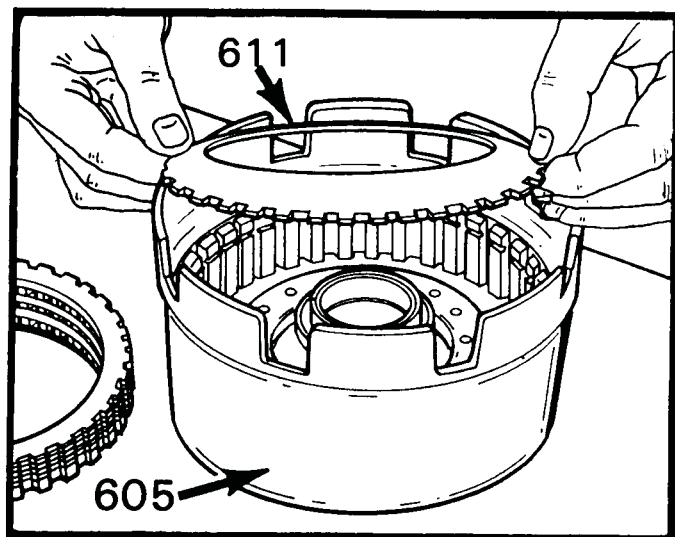

Figure 152
12. Install the reverse input "Bellville" plate (IF SO EQUIPPED), into reverse input housing, as shown in Figure 152.